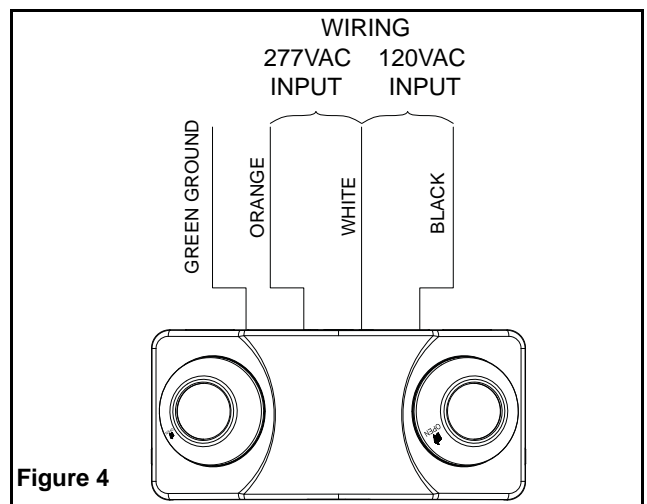

Figure 4
4. Make the proper connections (see figure 4):